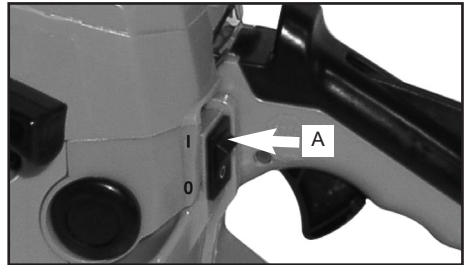

Fig. 11
4. Set the ignition switch to the "I" ON position. (Fig.11)